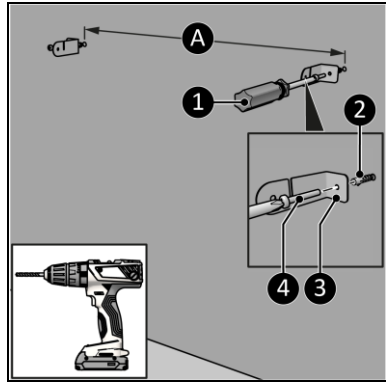

Figure 10
4. Drill two holes at least 610 mm above the floor for the brackets. The distance between the holes is approximately (Figure 10, pos. A)*:
5. Place wall plugs (Figure 10, pos. 2).
6. Screw and tighten a left and a right bracket (Figure 10, pos. 3) to the wall with a large screw (Figure 10, pos. 4) using a Phillips screwdriver (Figure 10, pos. 1).